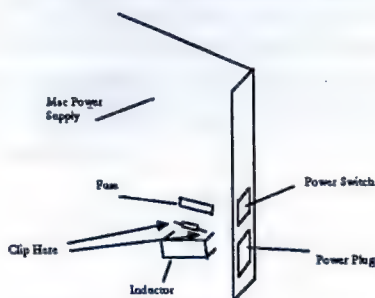

Figure 7 :clip position
1. Attach the two yellow clips to resistor RP46 on the Mac power supply as shown in Figure 7.
4. Attach the green ground wire to the chassis screw shown in Figure 7